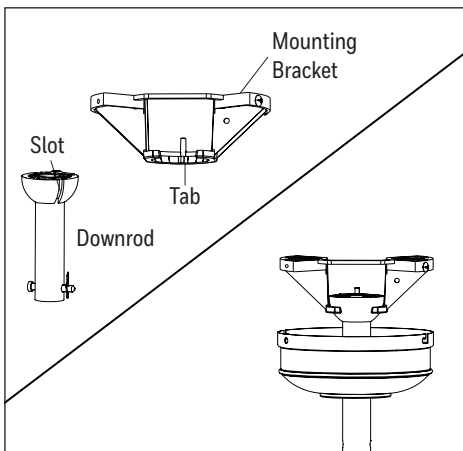

Figure 3.4
4. Install the ball end of the downrod into the opening of the mounting bracket. Rotate the downrod until the tab in the mounting bracket is seated in the slot in the downrod ball (Figure 3.4). **WARNING:** Failure to align the slot in the ball with the tab on the mounting bracket may cause the fan to fall, which could result in injury or death.